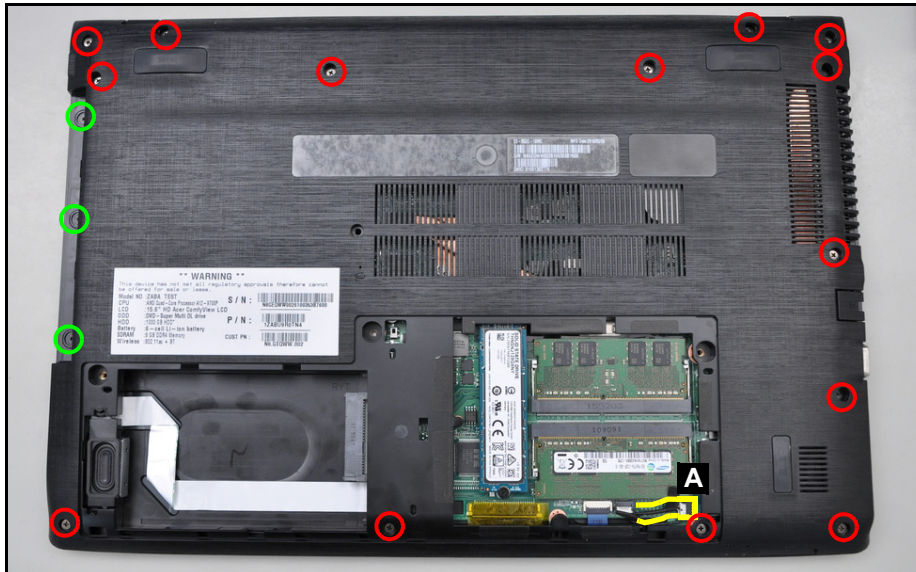

Figure 3-18. Base Cover Removal
1. Remove three (3) screws from the HDD door (Figure 3-18).
1. Disconnect the speaker cable (A) from the mainboard connector (Figure 3-18).
2. Remove seventeen (17) screws from the base cover (Figure 3-18).